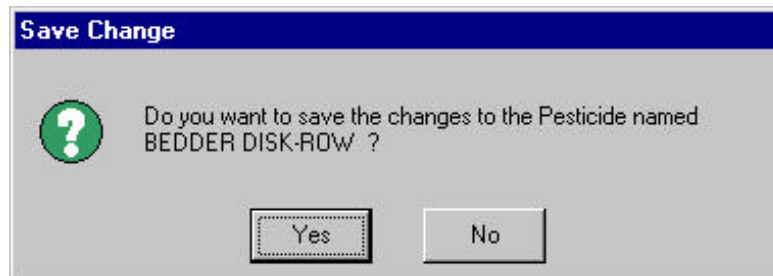

Figure 14.64
- e. A prompt box appears (Figure 14.64).